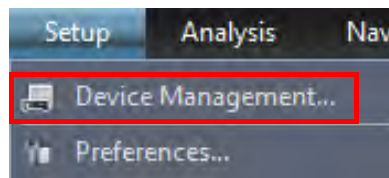
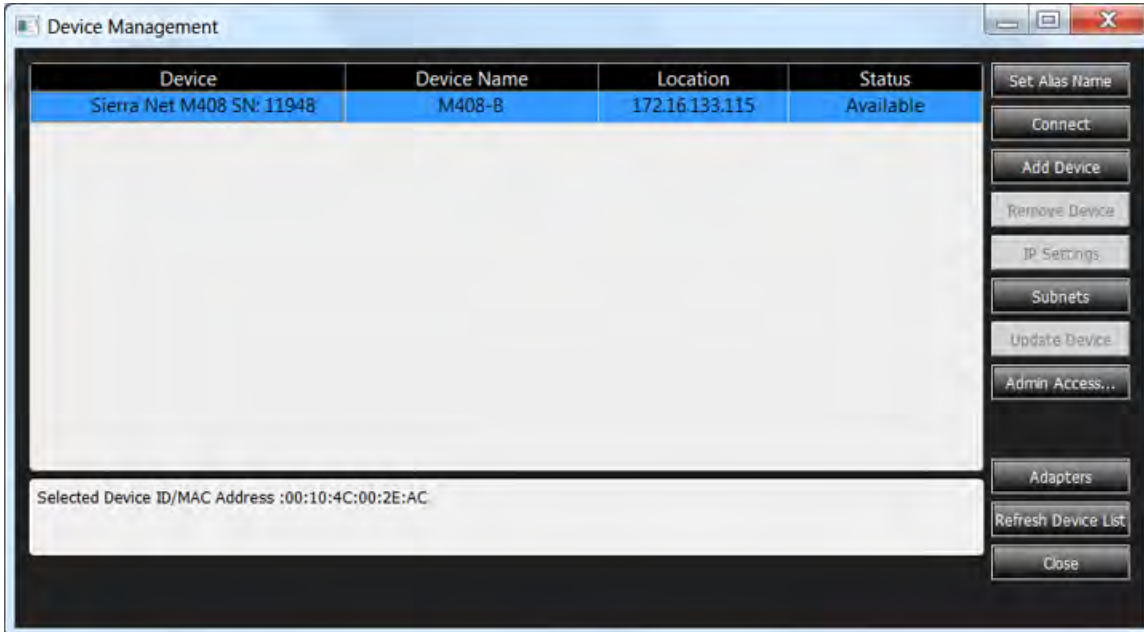

Figure 2.47: Connecting to Device(s).
Figure 2.48: Device Management Dialog Window
2. Click **Setup** → **Device Management** (Figure 2.47). The Device Management dialog window opens (see Figure 2.48).